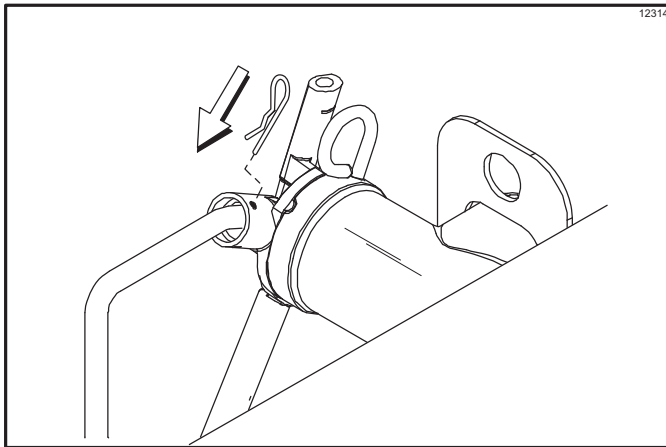

Figure 6-36
- Important:** Install the pump end of the mix feed tube and secure it with the cotter pin. Failure to follow this instruction could result in sanitizer spraying on the operator. (See Figure 6-36.)